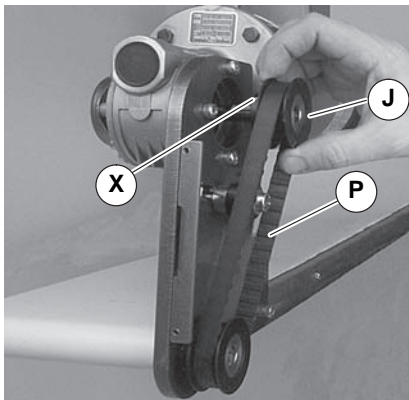

Figure 20
*If drive pulley (Figure 20, item J) is replaced, wrap timing belt around drive pulley and complete step 3.*
3. Loosen drive pulley set screws (Figure 20, item X). Remove drive pulley (J) and timing belt (P).
*Drive pulley (Figure 20, item J) is removed. Wrap timing belt around drive pulley and complete step 13.*